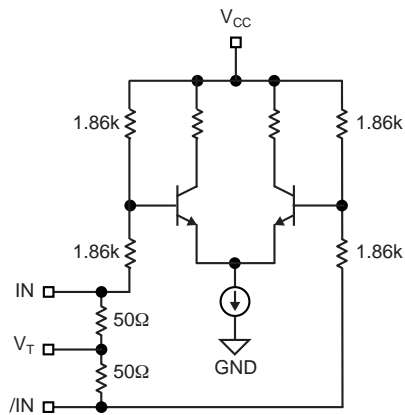

Figure 2a. Simplified Differential Input Buffer
- Note 3.** Due to the internal termination (see Figure 2a) the input current depends on the applied voltages at IN, /IN and  $V_T$  inputs. Do not apply a combination of voltages that causes the input current to exceed the maximum limit!
**Note 3.** Measured as per Figure 2a,  $100\Omega$  across Q and /Q outputs.